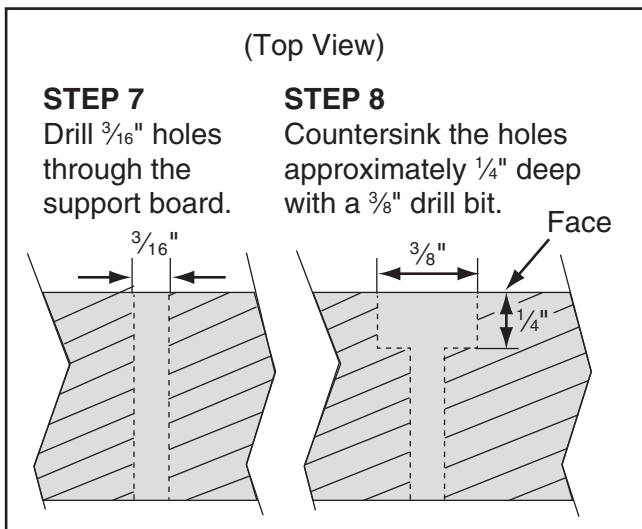

Figure 19. Steps for drilling and countersinking screw holes into support board.
- Countersink the holes in the face of the support board approximately $\frac{1}{4}$ " deep with a $\frac{3}{8}$ " drill bit, as shown in **Figure 19**.